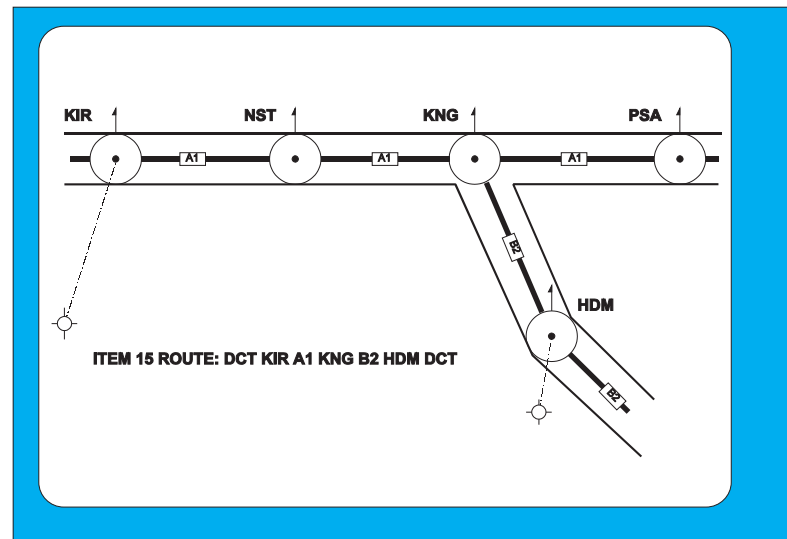

Figure 12.3 Use of DCT
- If the **destination airfield is not on** or **connected to** an ATS route the last entry will be **DCT**. (*Figure 12.3*)